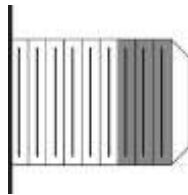
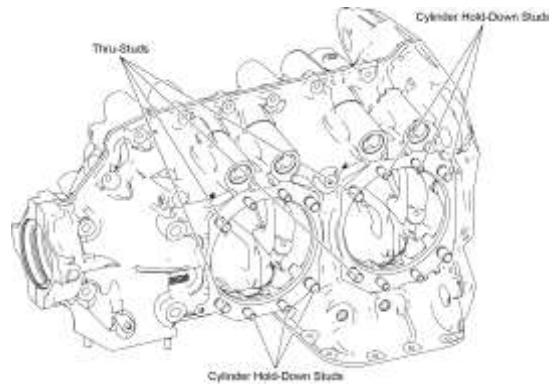

Figure 37A
Figure 37B
D. Apply one or a combination of any of the following lubricants to the outer three threads (Figure 37A) on all of the crankcase thru-studs and cylinder hold-down studs (Figure 37B):